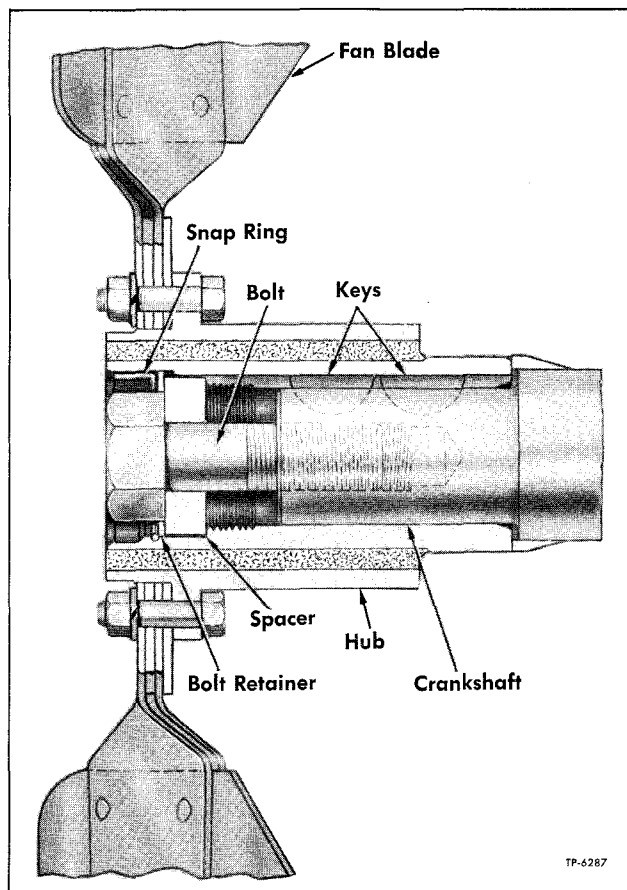

Figure 7—Fan Installation
Fan blades and hub assembly is mounted on front end of engine crankshaft. Blades are bolted to hub and can be removed by removing bolts at hub flange (fig. 7).
REMOVAL (Fig. 7)
2. Install fan hub on crankshaft and retain with bolt and spacer (fig. 7). Tighten hub retaining bolt to 180-200 ft. lbs. torque, using torque wrench.